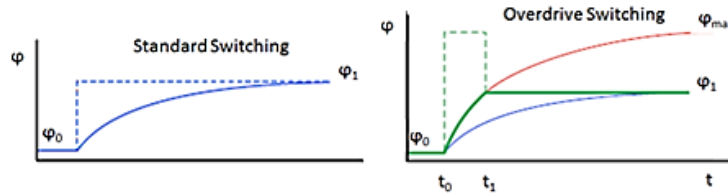

Figure 23 Standard switching, and Overdrive switching taking advantage of the transient nematic effect.
- Max Transient Frames – This parameter is specific to ODP. Multiple concepts are built into ODP to improve the LC switching speed. One concept is referred to as the transient nematic effect. As shown in Fig. 23, if phase delay of a LC modulator is changed from ϕ_0 to ϕ_1 , then the LC molecules relax into the new phase following approximately an exponential curve. In order to take advantage of the transient nematic effect, one instead changes the phase from ϕ_0 to ϕ_{\max} to ϕ_1 . This causes the relaxation to follow a different exponential curve until the desired phase is reached, resulting in a significantly improved switching speed. When switching between images with pixels set to arbitrary phases, the duration of time that the pixels should be set to an intermediate phase is variable based on the initial and target phase. The transient frames allow the different pixels to be held at varying voltages for an appropriate amount of time. However, on most computers each transient frame takes approximately 490 μ s to load. There is a balance between minimizing the LC response time without limiting the system frame rate. In most applications we recommend this parameter be set to 10.